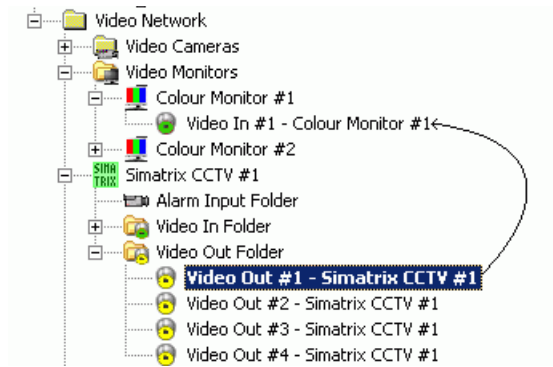

Fig 16 Connecting SIMATRIX to monitors
5. Drag and drop the **Video Out** signal to the monitor **Video In** node (Fig 16).